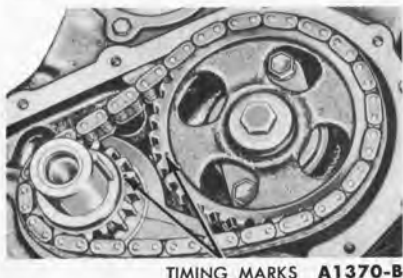
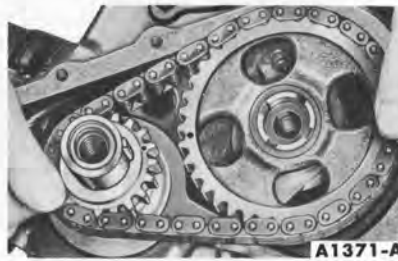

FIG. 45—Aligning Timing Marks
FIG. 46—Timing Chain and Sprockets Removal
5. Crank the engine until the timing marks are aligned as shown in Fig. 45. Remove the camshaft sprocket retaining bolt and washer. Slide both sprockets and timing chain forward and remove them as an assembly (Fig. 46).
1. Position the sprockets and timing chain on the camshaft and crankshaft. Be sure the timing marks on the sprockets and chain are positioned as shown in Fig. 45. Install the camshaft sprocket retaining bolt and washer. Torque the bolt to specifications. Install the oil slinger so that the timing pointer on the slinger is